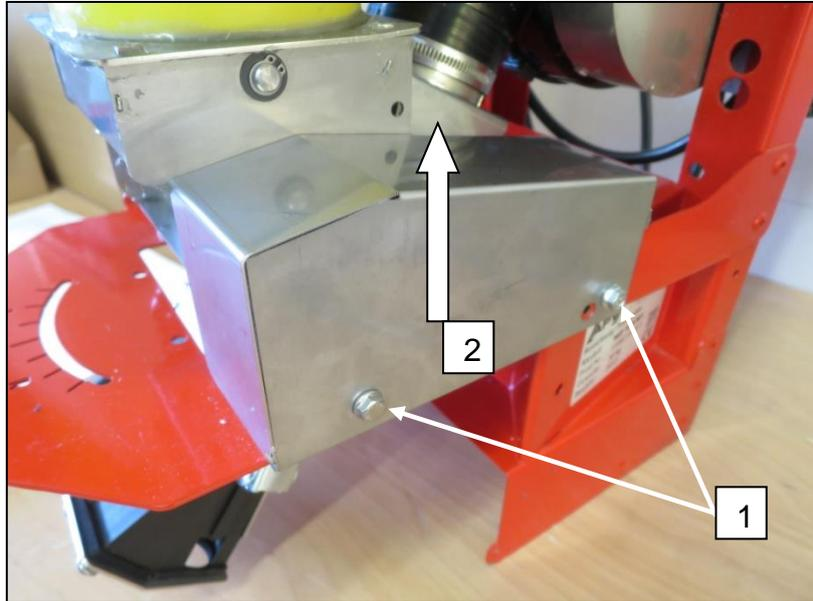

Fig.: 12
- To remove the seeding shaft motor cover, loosen the two bolts **1** marked in Fig.: 12 and pull off the cover towards the top **2**.